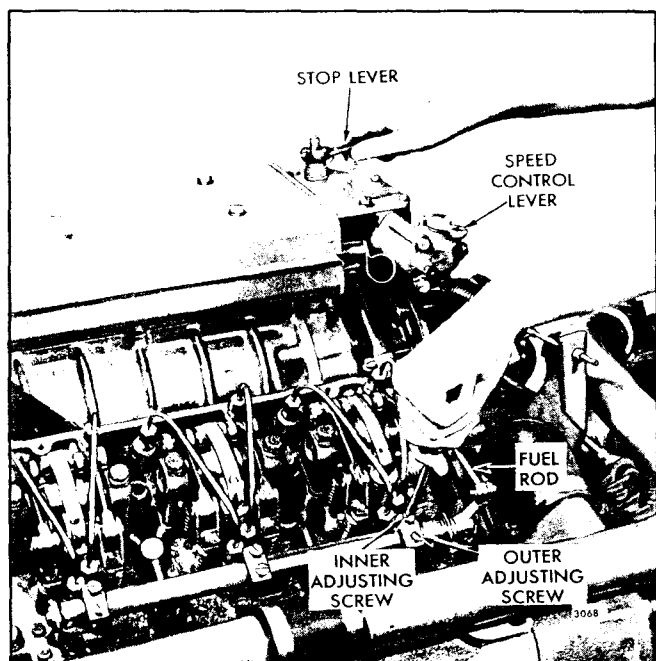

Fig. 3 - Positioning No. 3L Injector Rack Control Lever
6. Move the stop lever to the RUN position and hold it in that position with light finger pressure. Turn the inner adjusting screw of the No. 3L injector rack control lever down (Fig. 3) until a slight movement of the control tube is observed, or a step-up in effort to turn the screw driver is noted. This will place the No. 3L injector rack in the full-fuel position. Turn the outer adjusting screw down until it bottoms lightly on the injector control tube. Then alternately tighten both the inner and outer adjusting screws.